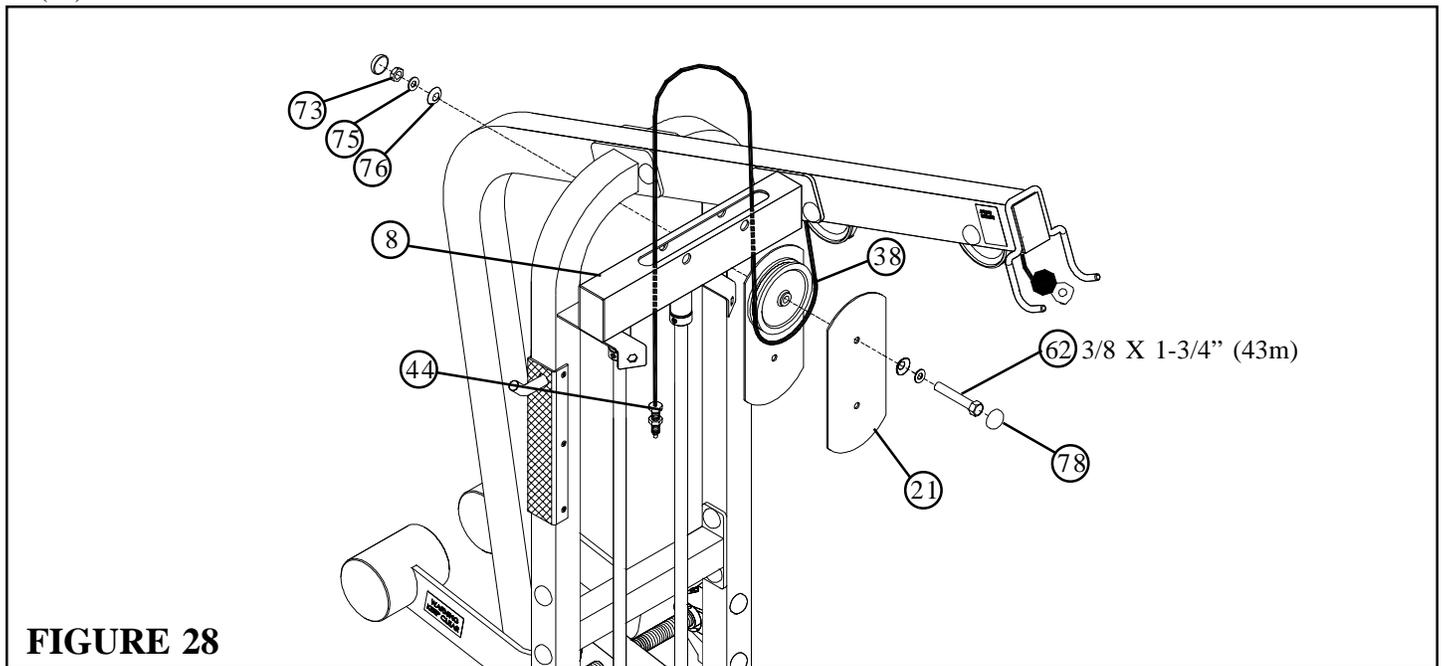

**FIGURE 27**
- Route the LAT CABLE (44) through the REAR UPRIGHT (5). Then assemble two 4-1/2" PULLEYS (38) and assemble the PULLEYS to the REAR UPRIGHT (5) using four RH CAPS (78), one 3/8 X 2-1/2" BOLT (64), one 3/8 X 3" BOLT (65), four 3/8" SAE WASHERS (75), four 3/8" RH WASHERS (76), three 3/8 X 1/2" FLANGE SPACERS (54), one 3/8 X 3/4" FLANGE SPACER (56) and two 3/8" LOW HEIGHT LOCK NUTS (73) as shown in FIGURE 27. (NOTE: Make sure CABLE is in groove of PULLEY before tightening BOLTS.)
- **SECURELY** tighten STACK BOOM (8) to the REAR UPRIGHT (5) as shown in FIGURE 27.
- Slide the two 13/16" SHAFT COLLARS (50) to the top of the STACK BOOM (8) and **SECURELY** tighten the SHAFT COLLAR (50) set screws.